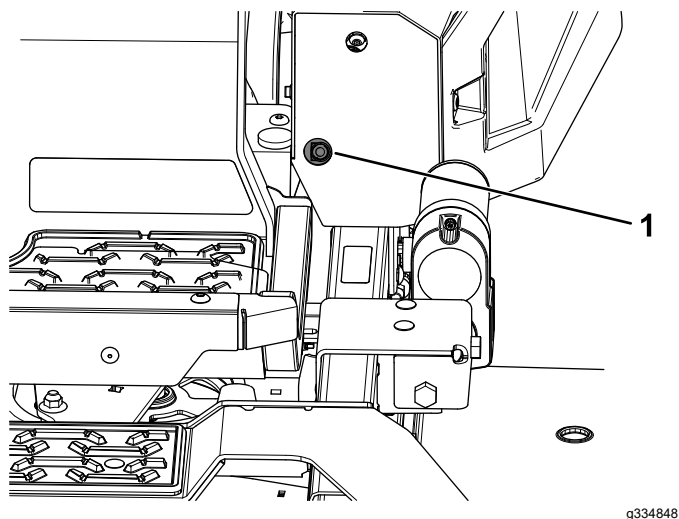
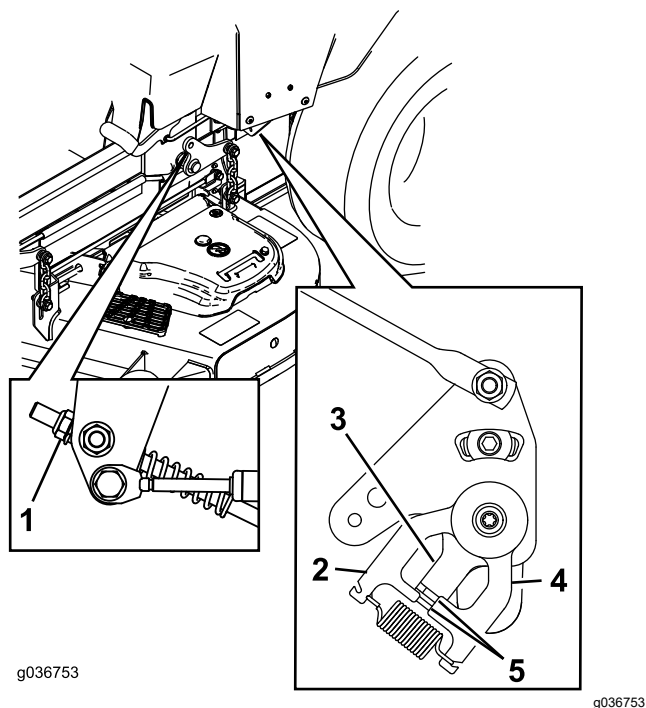

Figure 66
Figure 67
11. Adjust the pump-control-rod lengths by rotating the nut in the appropriate direction until the wheels slightly creep in reverse (Figure 66 and Figure 67).